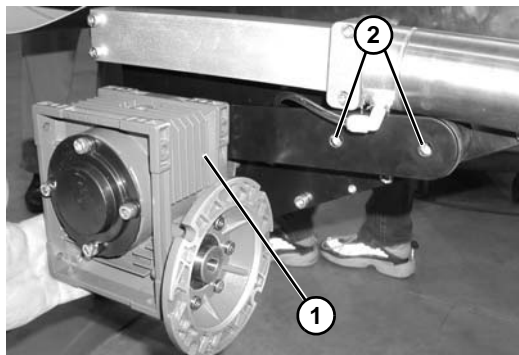

Figure 29
5. Slide gearmotor (**Figure 29, item 1**) on to drive shaft (**Figure 29, item 2**). Tighten mounting screws (**Figure 29, item 2**) to 200 in-lbs (22.5 N-m).